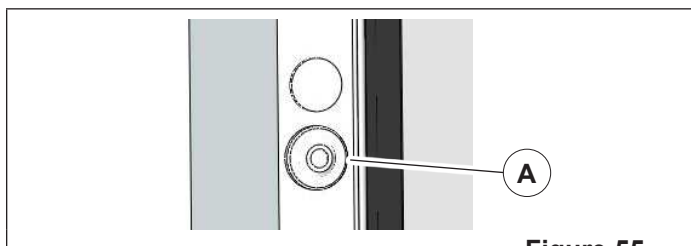

Figure 55
7. Locate the receiver photoeye (A) on the drive side lower track and the source photoeye on the non-drive lower track (Figure 55). On non-stainless steel doors, the receiver photoeye has a clear cover to view a red light that indicates communication between receiver and source. A flashing red light indicates a dirty lens or weak signal.